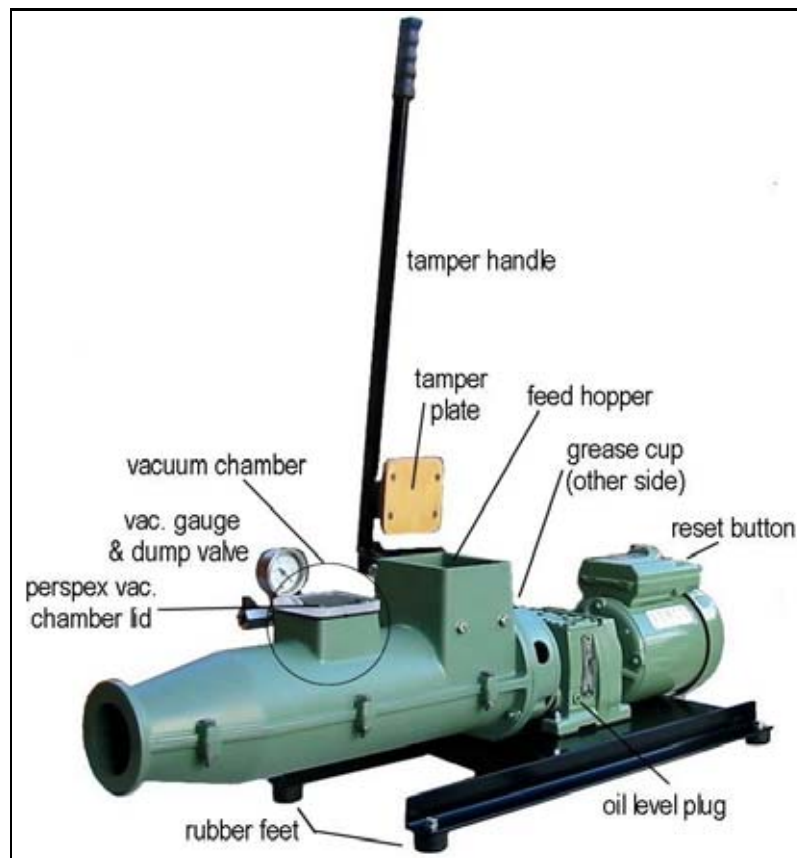

Figure 1: Components of the VENCO 75mm pugmill
1. Screw the vacuum gauge onto the brass fitting attached to the rear of the vacuum chamber. To tighten use a 14mm (9/16") spanner on the square brass section adjacent to the thread—do not over tighten. A layer of Teflon tape (plumber's thread tape) on the thread of the gauge may make it easier to align the gauge as in figure 1.
To drain the gearbox, remove the lowest plug adjacent to the gearbox foot. Use a 5mm hex key to remove the gearbox plugs. To fill the gearbox, firstly remove the oil level plug located approx. 50mm [2"] up the side of the gearbox from the black base. See figure 1. Fill via either of the top two filling plugs until oil starts to run from the open level plug.